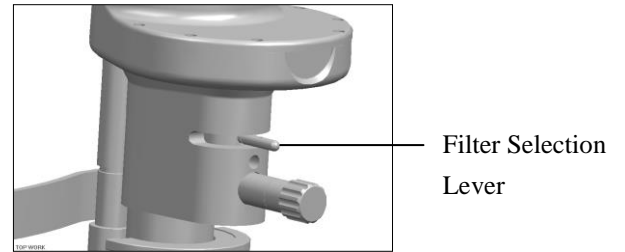

Figure3.4.6
6. Select the color filter. Rotate the filter selector lever in the horizontal direction to switch four different color filters into the light path. Heat-absorbing filters are often used to make the patient feel more comfortable. Other filters should be placed in the position of the heat-absorbing filter after use. (See Figure 3.4.6).